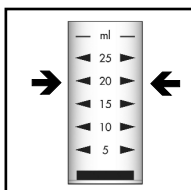

Figure 1
1. Fill the sample cup to the 20 mL mark with the sample to be tested (fig. 1).